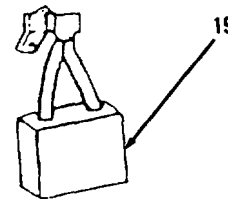

Figure 4-81.
1. Clean four brushes (19) with a dry cloth only. Do not permit dry cleaning solvent to come in contact with four brushes (19, Figure 4-81).